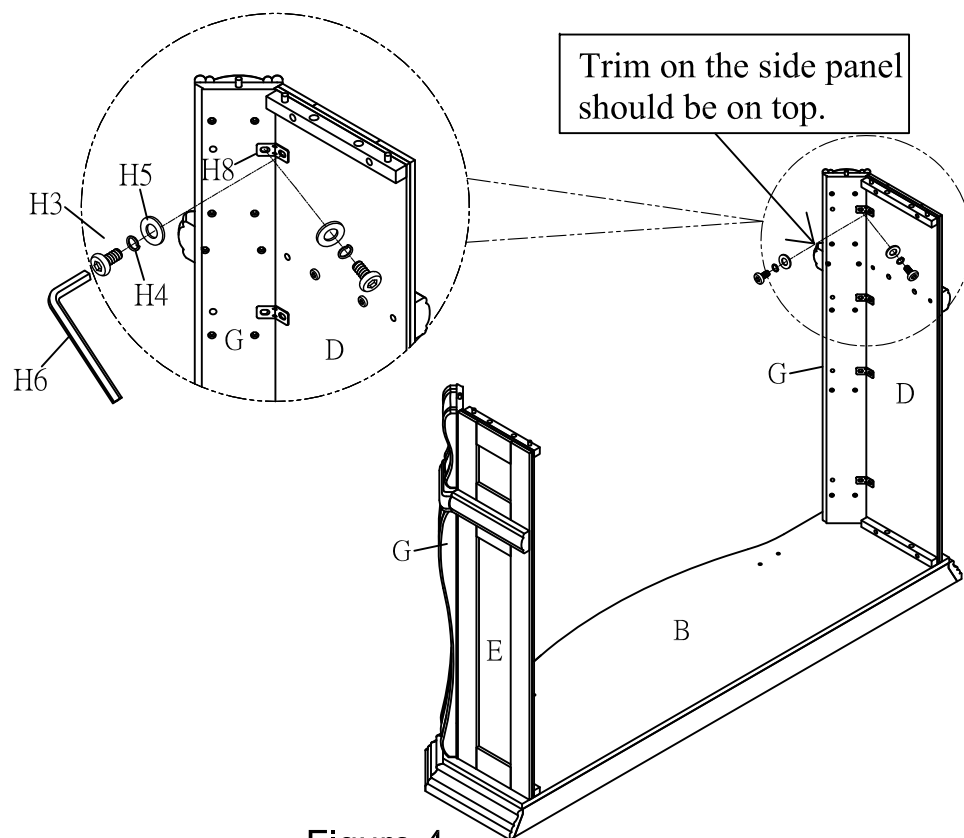

Figure 4
With assistance from other adults, place the tenon of Post (G) into the corresponding hole of Base (B). The Side Trim (F) of Left Side Panel (D) should align with the trim on Post (G). Attach Post (G) to Left Side Panel (D) using Bracket (H8), Short Bolt (H3), Spring Washer (H4), Flat Washer (H5) and Allen Wrench (H6) as shown in Figure 4. DO NOT fully tighten bolts at this time. Attach remaining Post (G) to Right Side Panel (E) using the same process.